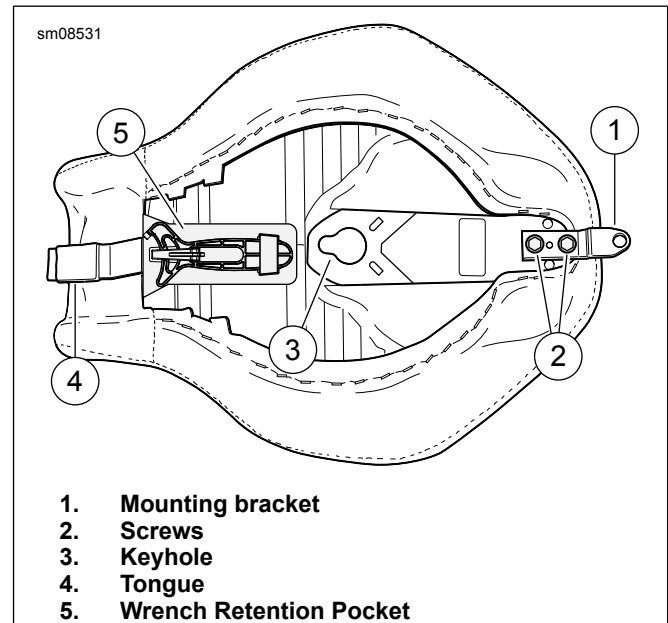

Figure 1. Bracket, Screws, Keyhole and Tongue
1. See Figure 1. Remove the two screws (2) securing the rear seat bracket (1). Remove the bracket. Save screws and bracket for installation on pillion.